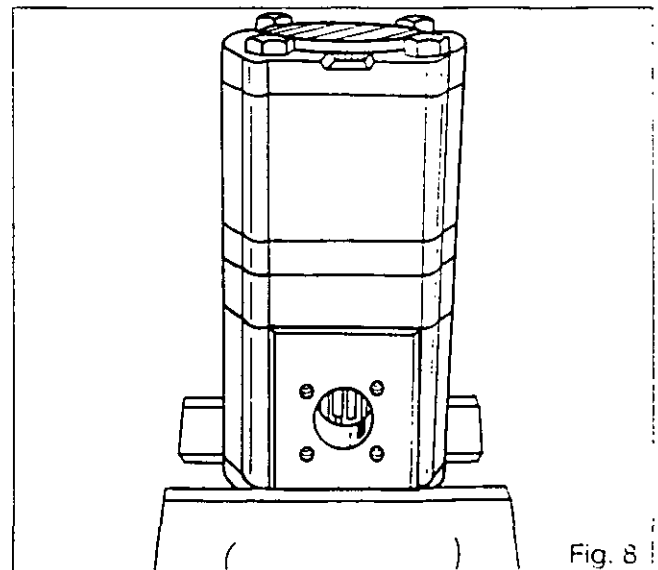
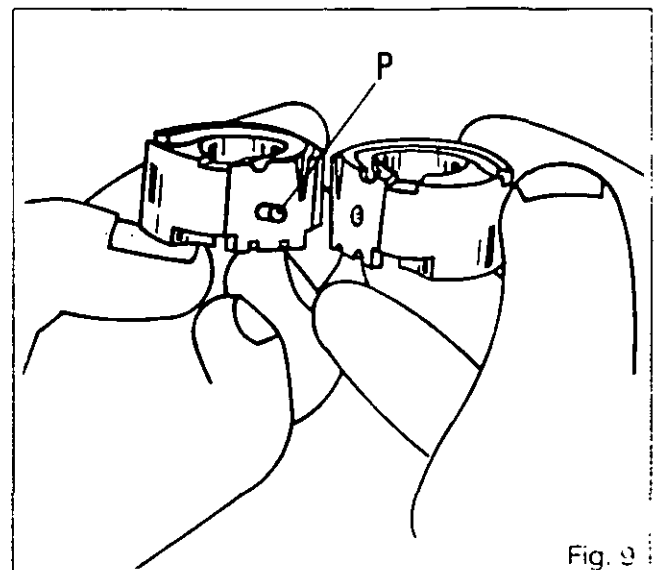

Fig. 8
Fig. 9
53. Place the pump in a vice (Fig. 8).
55. Remove the screws (2) and (4).
56. Remove the cover plate (1).
57. Remove the composite seal (3) and seal (38). Separate the low-pressure stage (37) from the intermediate plate (14).
58. Remove the stage and the bearing/pinions assembly (7).
59. Remove the pinions (8) and (9) from the bearing assemblies (5) and (11).
**Note:** Keep the bearing assemblies paired. Each bearing is linked by a dowel «P» (Fig. 9).
60. Remove the composite seal (12) and seal (13).
61. Remove the intermediate plate (14), the driver (15) and the seal (16).
62. Untighten and remove the screws (36).
63. Remove the intermediate plate (35).
64. Remove the composite seal (33) and seal (34).
65. Separate the high-pressure stage (32) from the flange (21).
66. Remove the bearing/pinions assembly (25).
67. Remove the pinions (28) and (29) from the bearing assemblies (27) and (31).
68. Remove the composite seal (23).